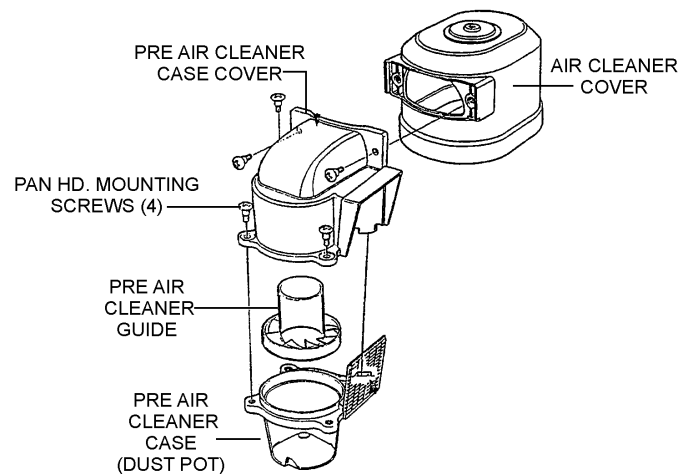

Figure 26. Removing Dust Pot
1. Remove the four pan head screws that secure the dust pot to pre air cleaner case cover. (Figure 26).